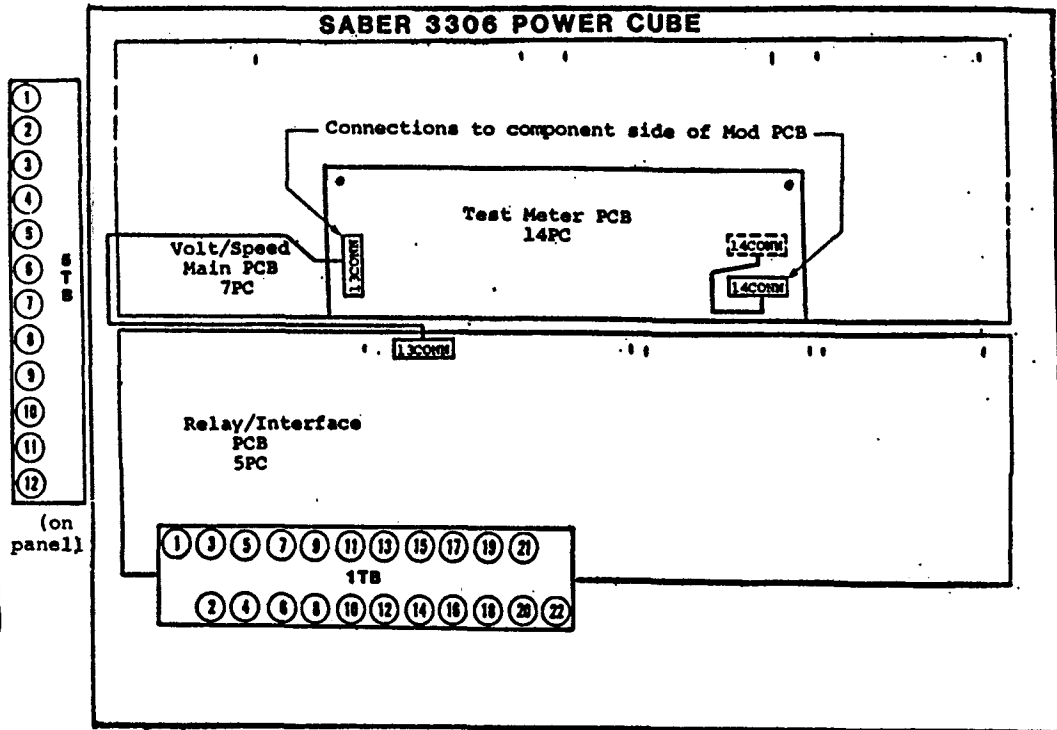
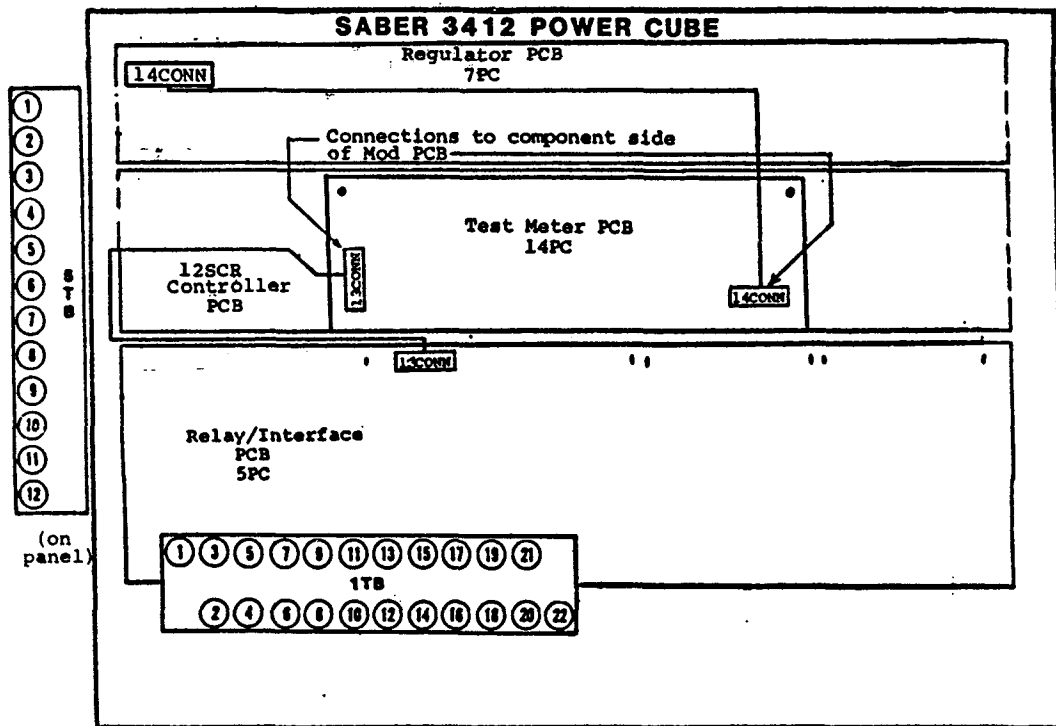

Figure 3. Saber 3306 Installation Diagram
Figure 4. Saber 3412 Installation Diagram
1. The modification PCB is to be installed on the Power Cube swing out panel and secured to the Volt/Speed Main PCB (3306) or 12SCR Controller PCB (3412) as shown in Figure 1. Connect cables 13CONN and 14CONN as shown in Figure 3 or Figure 4. Installation instructions are contained in the Controller instruction manual.